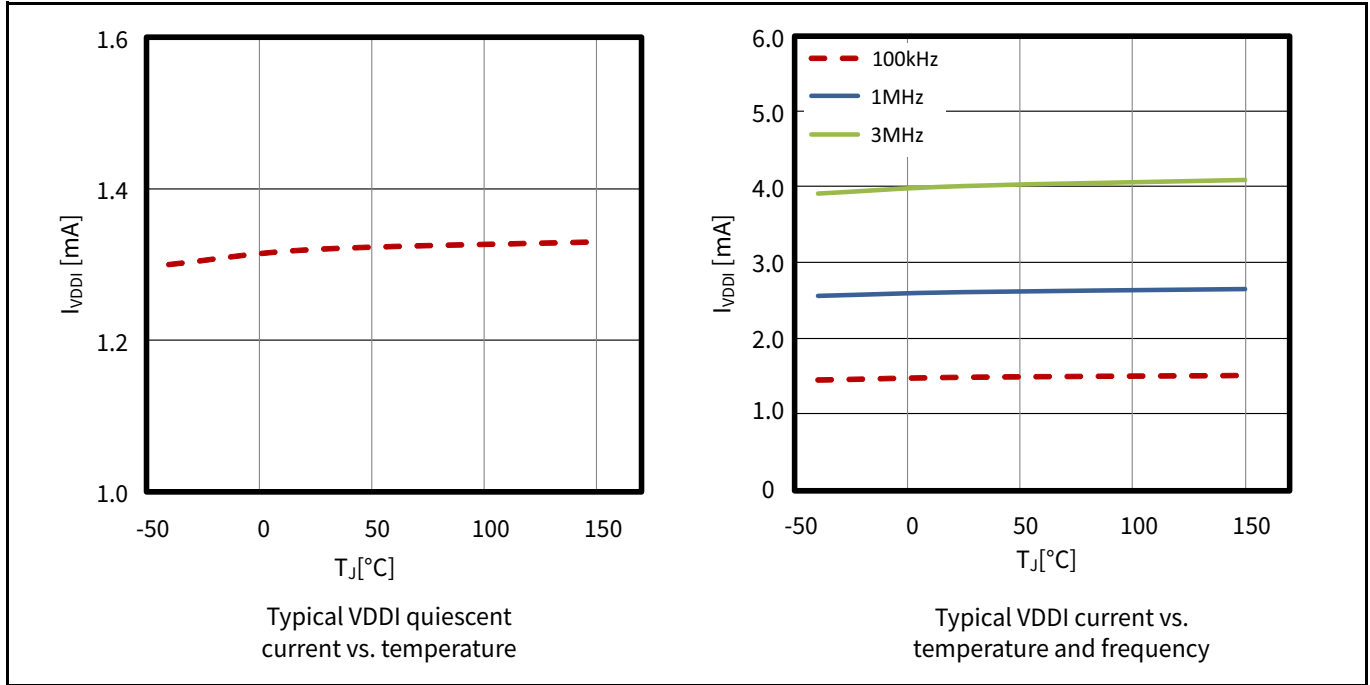

**Figure 6 UVLO behavior, start-up and deactivation time (unloaded output)**
**Figure 6** illustrates the UVLO behavior. It depicts the reaction time to UVLO events when the supply crosses the UVLO thresholds during rising or falling transitions (power-up, power-down, supply noise).